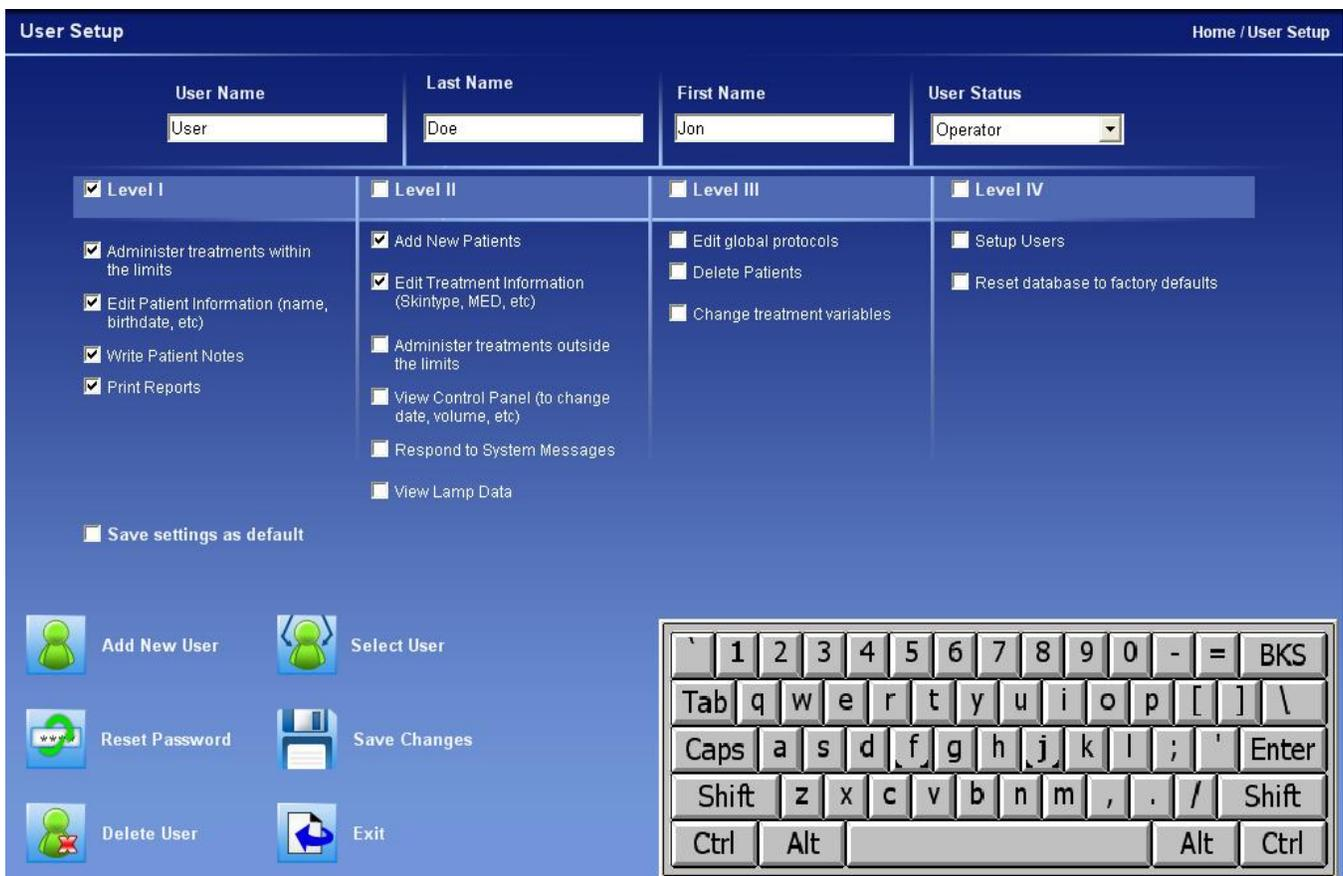

Figure 13 – User Setup Screen
2. Tap the **Add New User** button once. The User Setup screen will be displayed (See **Figure 13 – User Setup Screen**) and the cursor will appear in the **User Name** field.